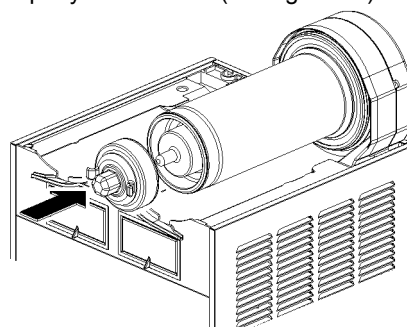

figure 15
- 5 Insert the magnetic outside rotor in the evaporator taking care to accompany it to the end (see figure 15).